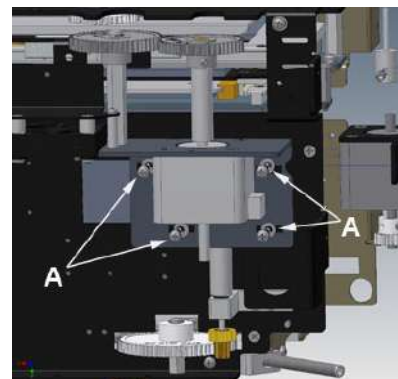

Fig. 1
- Unscrew the motor support screws **A**, see **Fig. 1** and/or **Fig. 3**.